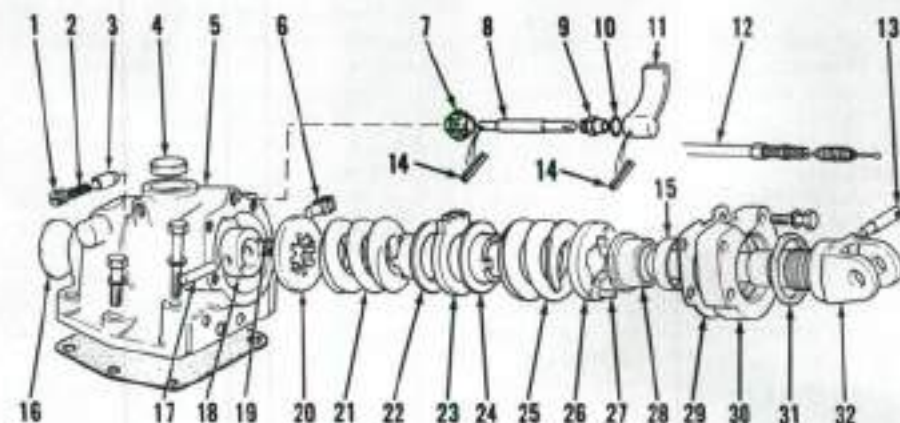

Fig. 278—Exploded view of selective rate draft sensing unit used on some models.
To disassemble transfer shaft (26—Fig. 278), disconnect transfer rod fork (30) from lever (27). Remove retaining nut from right-hand end of shaft, then remove lever (27) and key. Remove bearing retaining screw (25) from center support under pto housing. Using a hammer and punch, tap against right-hand end of shaft to remove shaft, left-hand bearing assembly and fork (21) as a unit. Remove bearings (23) and seals (22).